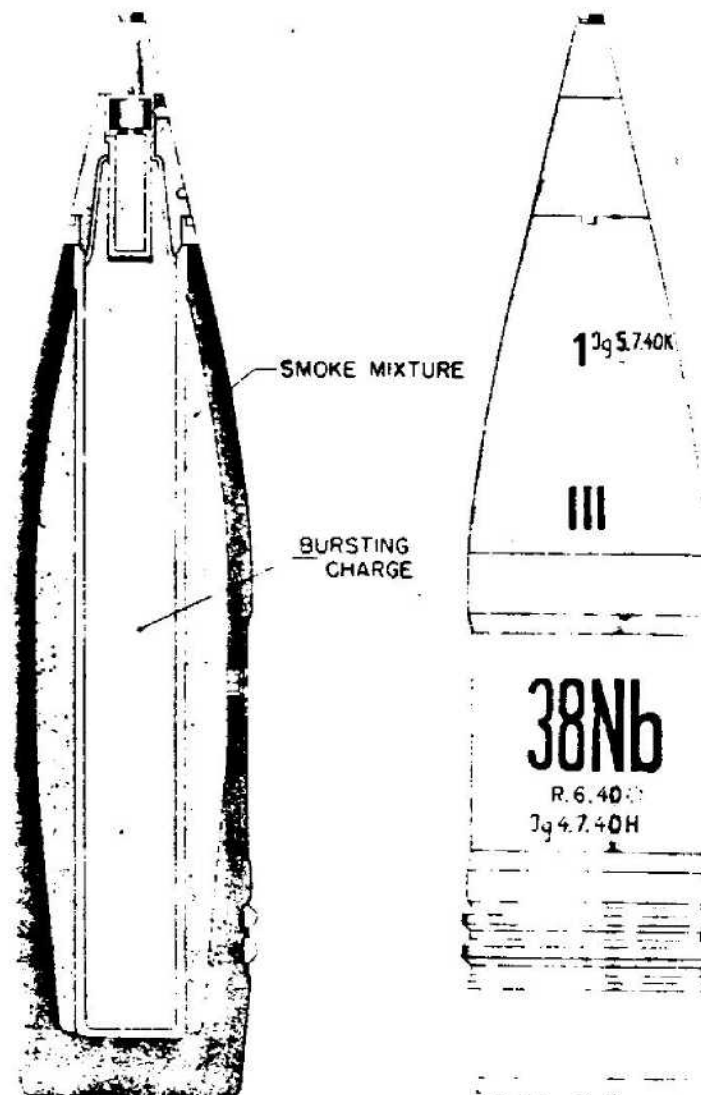

Figure 511—Smoke Projectile, Type 38, 150-mm, 15-cm Gr. 38 Nb.
**GERMAN NOMENCLATURE:** 15-cm Gr. 38 Nb (Granate 38 Nebel). (See fig. 511.)